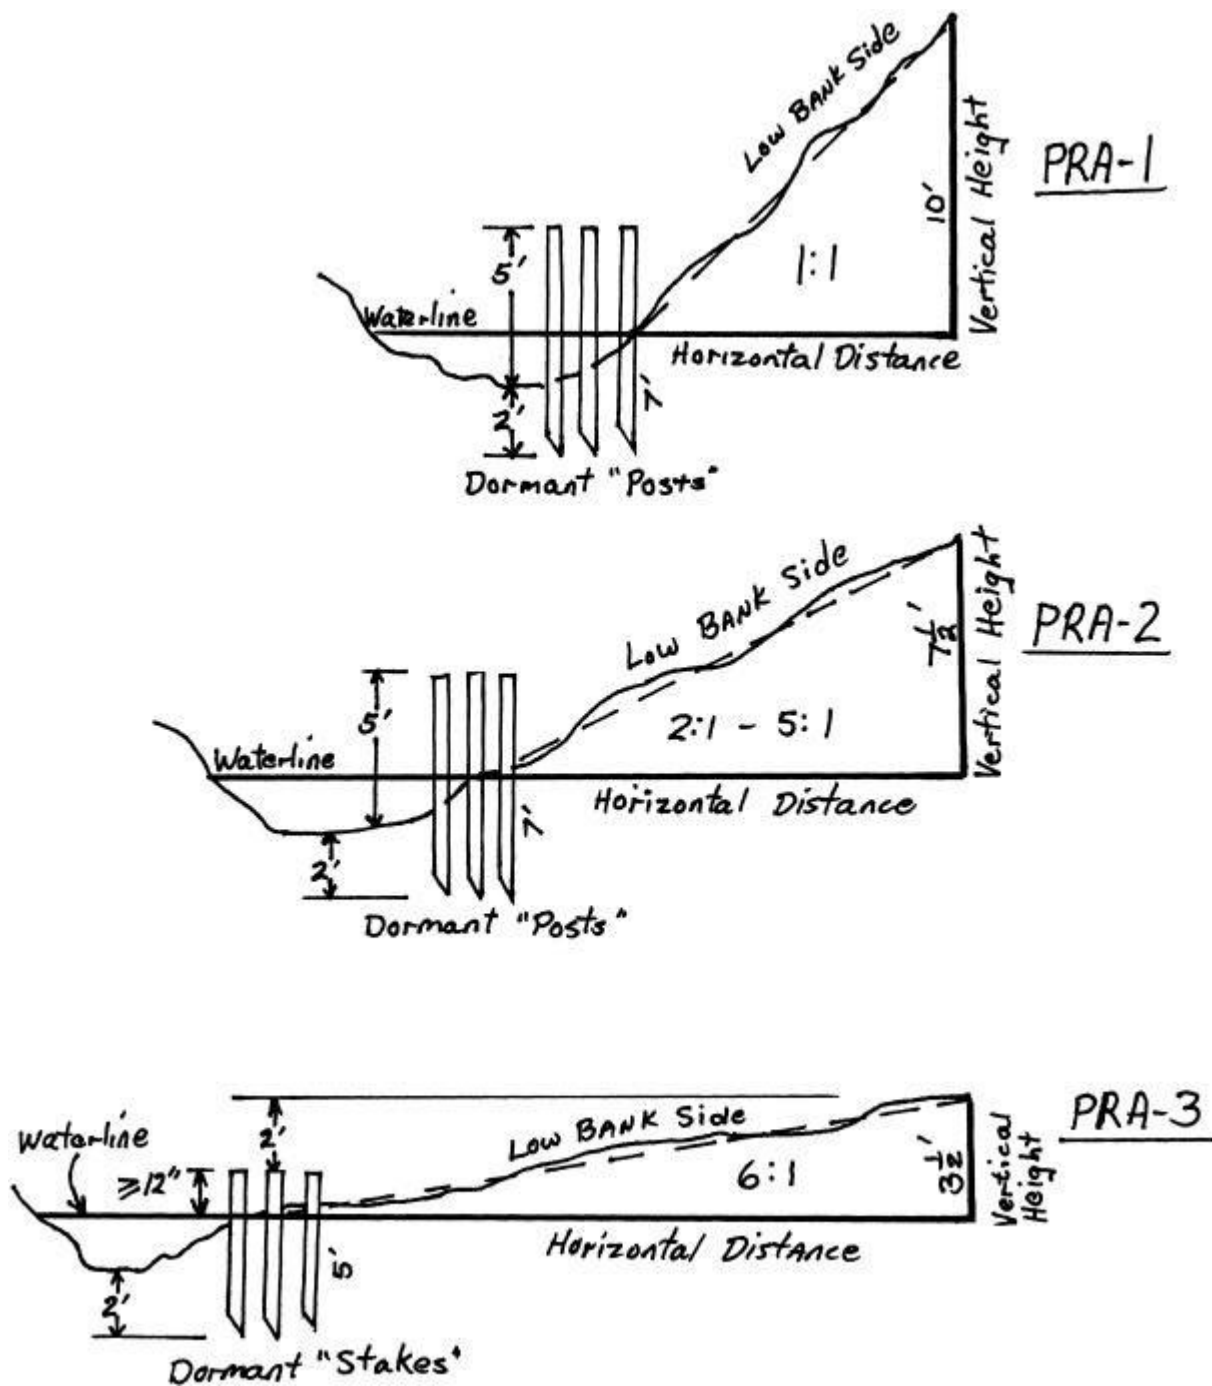

Figure 4
Planting row arrangement shall conform to those minimums listed in the standard and specification for this practice (see Figure 4).
3. Determine the ratio of horizontal distance to vertical height of the streambank (low bank side) for row arrangement to be use (see figure 4):